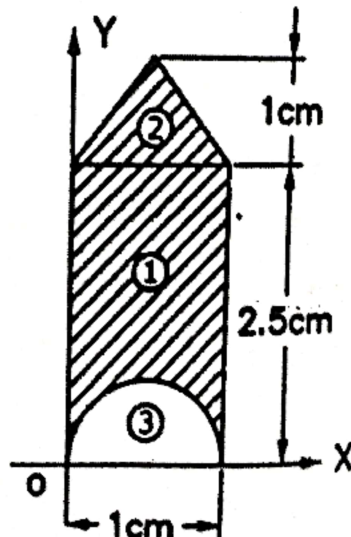

Fig. 14(c)
D. Find the centroid of the unequal angle $120 \times 80 \times 10$ mm, as shown in fig. 14(d). (10)